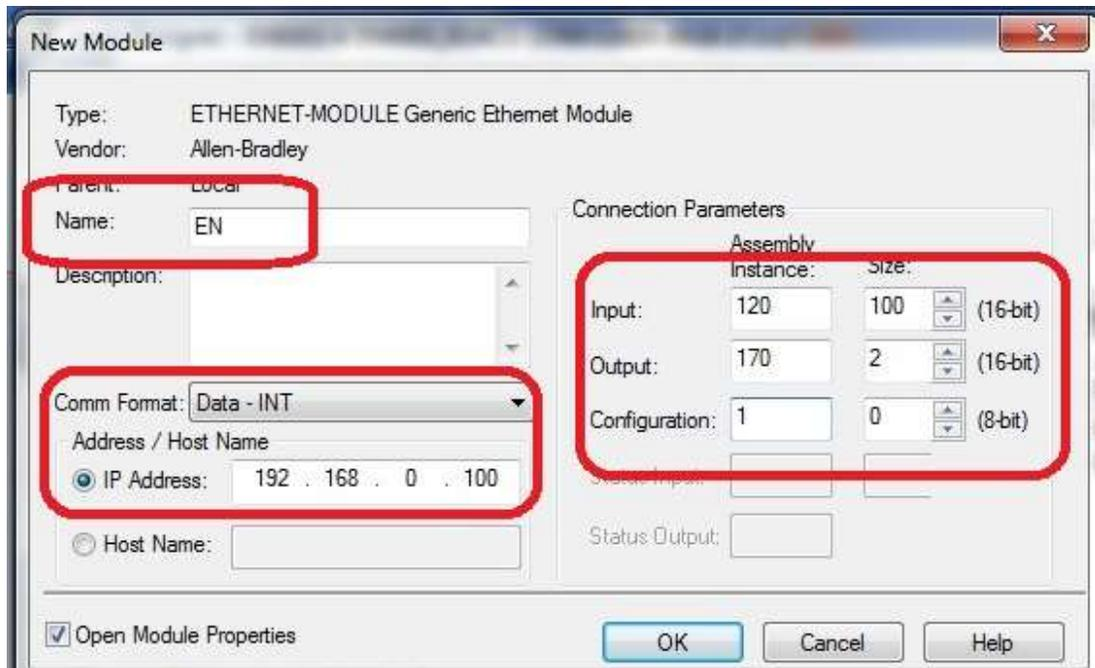

Figure 7 Setup Module properties
2.2.1.3. In the **Module Properties** window shown in Figure 7, enter the information below: